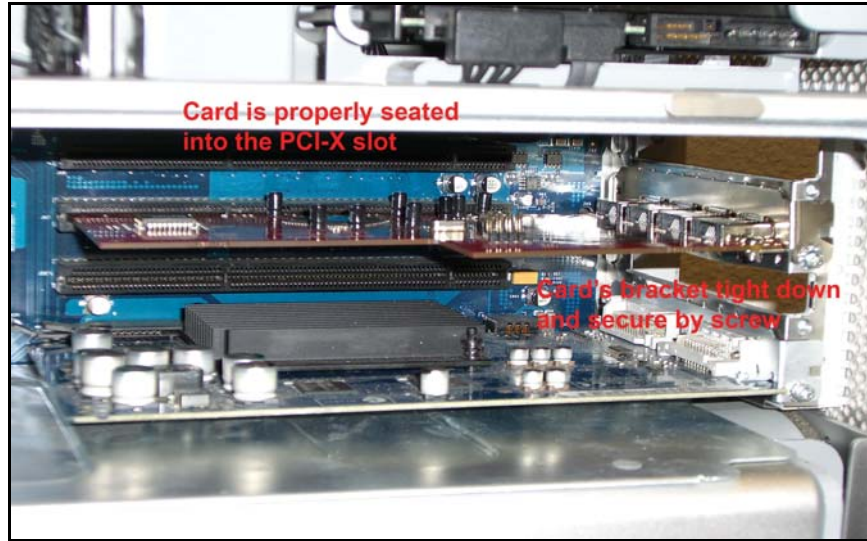

Figure 1: Inserting and securing the SeriTek/2SE4
7. Using the same screw that was removed earlier; secure the card to the Macintosh computer case (see Figure 1).